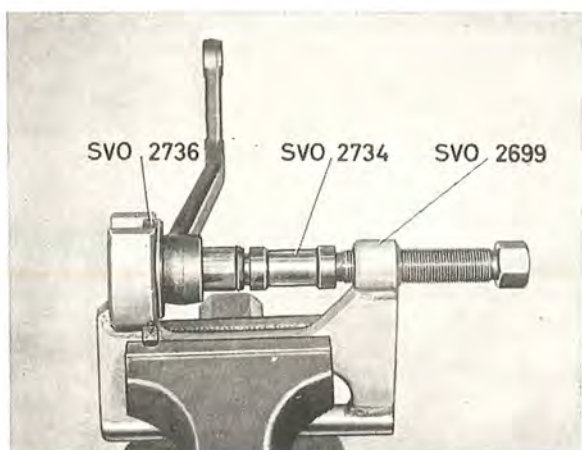

Fig. 6-43. Removing the rubber bush, relay arm
4. Secure press tool SVO 2699 in a vice and press the bush out with a counterhold SVO 2736 and drift SVO 2734 (see Fig. 6-43).